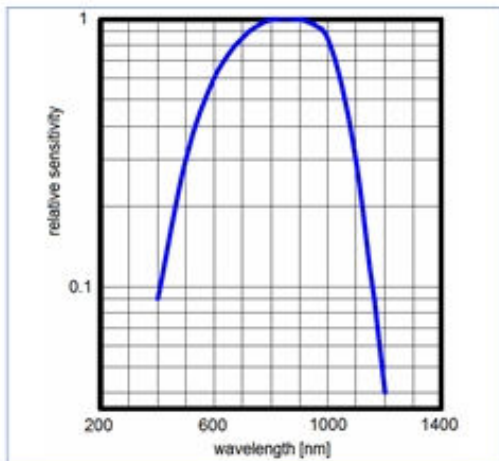
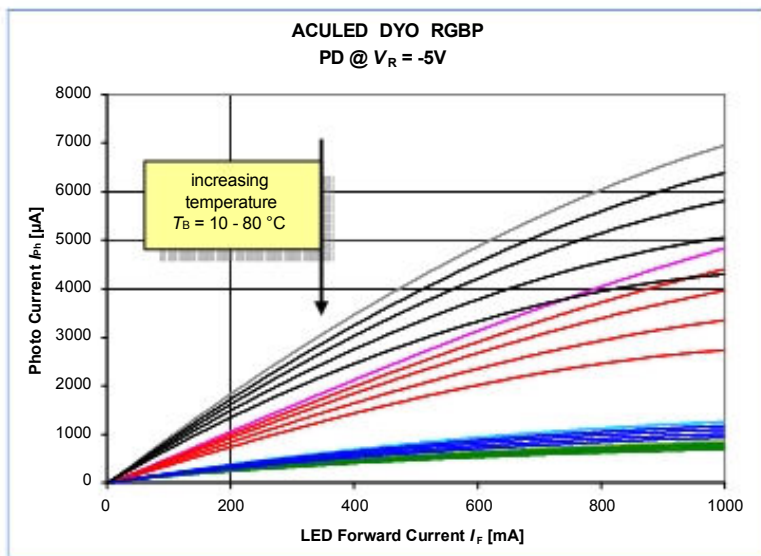

Figure 21
Figure 22
The output voltage is proportional to the photo current and thus to the irradiance E_e or the illuminance E_v at a given spectral distribution of the radiation or light reaching the photo diode; an example is given in table 4. Since the sensitivity of a PD depends on the wavelength as shown in figure 21, the resistance R_N has to be adjusted according to the amount of light and its spectral distribution. To learn more about the amplification circuitry of PDs, please refer to the appropriate published literature.
In this section we will see a specific example how the photodiode can be used based on an RGBP ACULED DY0, which means an ACULED equipped with a red, a green and a blue LED chip and the PD. In figure 22 we can see how the photo current of the PD depends on the current of the LEDs and the temperature of the board. The red LED leads to the highest photo current due to the spectral sensitivity of the PD as shown in figure 21 with its maximum at approx. 850 nm (IR). Table 5 shows the numbers at 25 °C board temperature. Please note that these numbers and figures depend on the intensity ranks of the specific ACULED and are for example only. The results were taken without any environmental light, so an important question is how these measurements would be influenced by ambient light. Table 4 shows the photo current of the PD induced only by ambient light typically for office illumination to get a picture of it. Since the values are very low compared to the photo current induced by the LEDs, ambient light does not matter in many applications. However, if it is an issue, you should synchronize the
Photo current of a PD placed in an RGBP ACULED DY0 at T_B of 25 °C. These numbers correspond to figure 22.